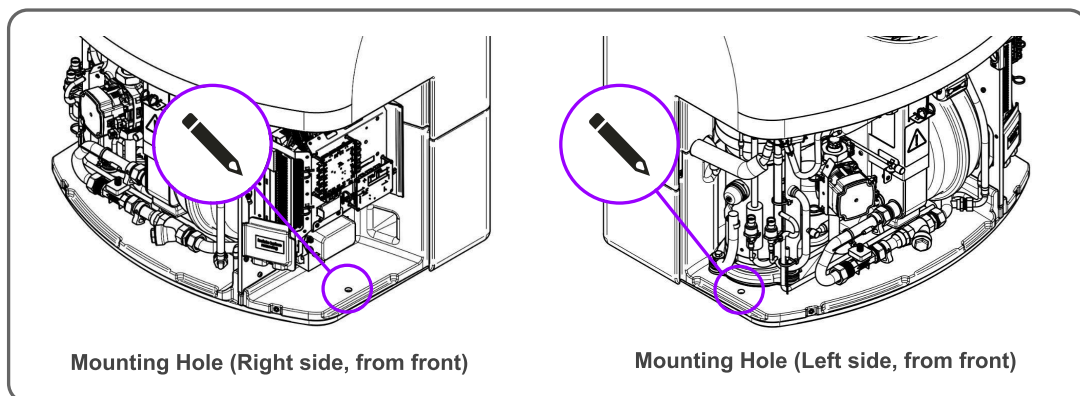

Figure 9.4 - Marking
2. Using a pencil, grease pen, chalk, or other suitable marking tool, mark the location of the mounting holes on the base. *See Figure 9.4 below*
If using the supplied slabs as a base, holes can be located by measuring from known points on the 900 x 600 mm prefabricated slab supplied with the unit. Refer to the below steps and *Figure 9.4* to mark the bolt holes.